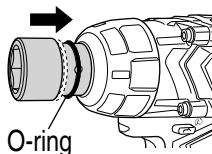

Fig. 11
(3) While making sure that the pin doesn't fall, attach the O-ring to the groove on the socket. (Fig. 11, 12)